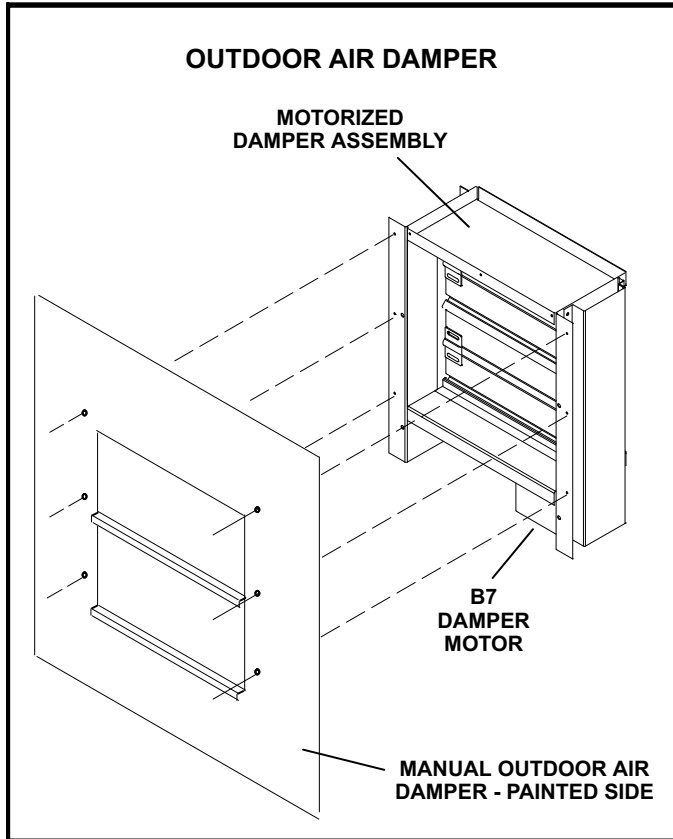

FIGURE 20
C1DAMP11A-2 is available for all units. Both sets include the outdoor air hood. A motorized kit (K1DAMP21A-1) can be ordered separately for all unit sizes. The dampers may be manually or motor (M) operated to allow up to 25 percent outside air into the system at all times (see figure 20). Washable filter supplied with the outdoor air dampers can